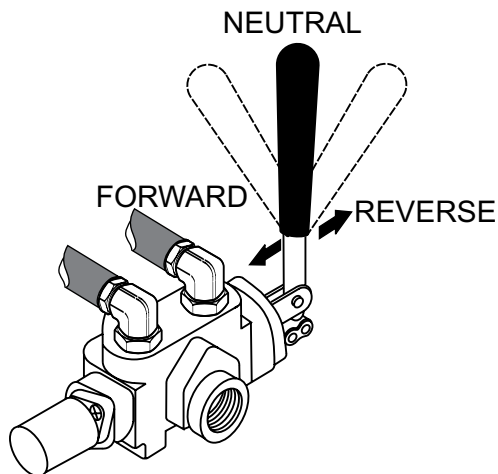

Figure 9. Travel Control Lever
2. Place the travel control lever (Figure 9) in the **NEUTRAL** position.